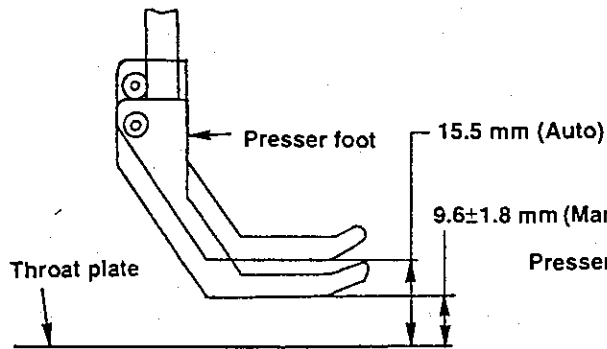

Fig. 1
<p>1) Adjusting the timing of opener</p> <ol style="list-style-type: none"> 1. Loosen screws ❶ (2 pcs.) in the screw gear of the opener shaft. (Fig. 3) 2. For LU-2210-N-7 : Align the graduation "J" on the handwheel with the handwheel pointer. For LU-2260-N-7 : Align the graduation "K" on the handwheel with the handwheel pointer. (Fig. 2) 3. Turn the opener shaft using the slot provided on the bottom end of the opener shaft. (Fig. 3) 4. For the standard adjustment, adjust so that the opener is brought to the extreme forward position in the state described in item 2 by turning the opener shaft. Then, tighten screw ❶ in the screw gear of the opener shaft. (Fig. 1 and Fig. 3) <p>(Caution) Re-adjust the thread trimmer cam after the completion of the adjustment of the opener timing. (Refer to "Thread trimmer cam" on page 41.)</p>	<p>☆ Loose stitches may result.</p> <ol style="list-style-type: none"> 2' Refer to "(1) Kinds and names of graduations on the handwheel" on page 5. 4' At this time, tighten screws ❶ while pressing the opener from the upper side and pressing upward the screw gear of the opener shaft so as to eliminate a play. <p>Turn the opener shaft clockwise as viewed from underside, and the timing of the opener will be advanced. Turn the opener shaft counterclockwise, and it will be retarded.</p>